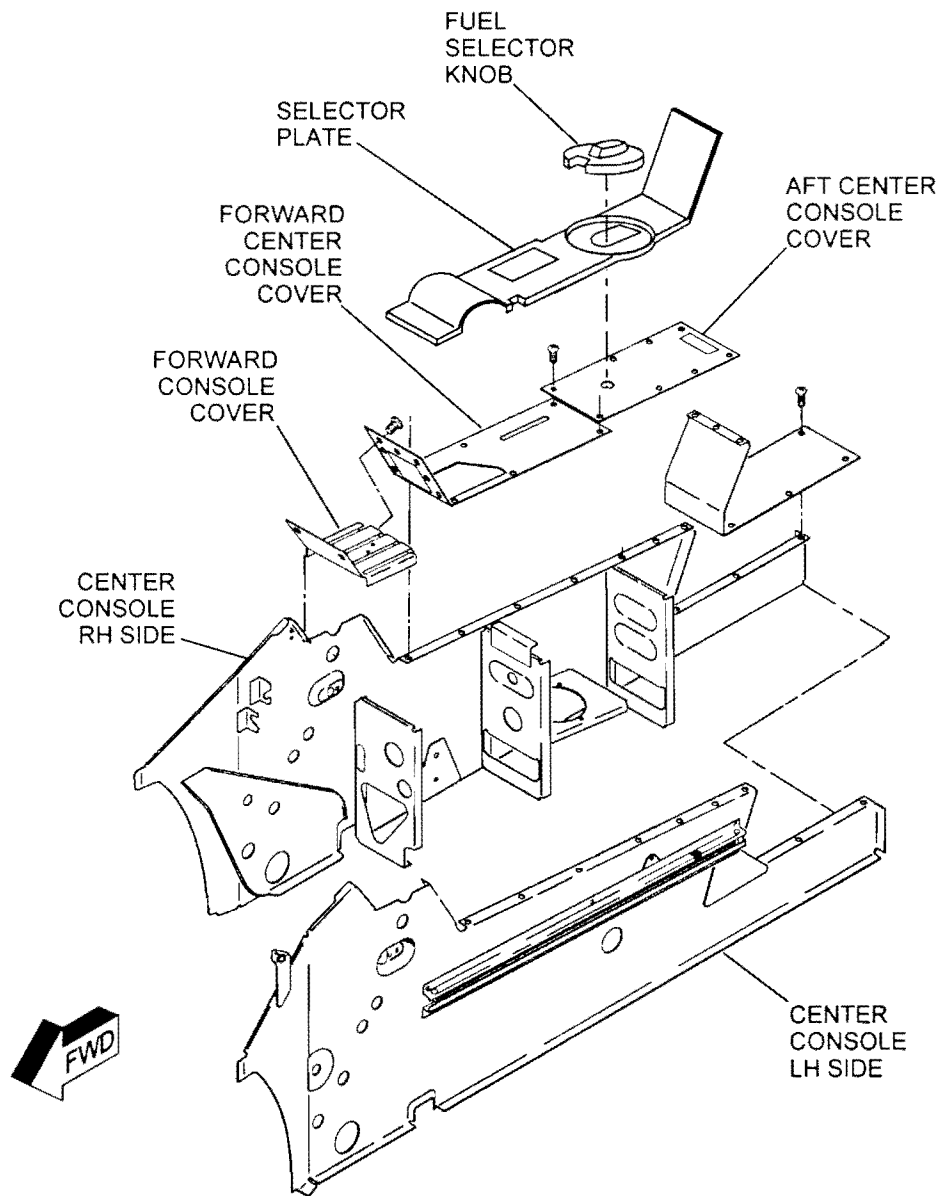

Figure 2.
1. Remove the screw attaching the forward and aft center console covers to the center console and remove the covers from the center console. Refer to Figure 2.